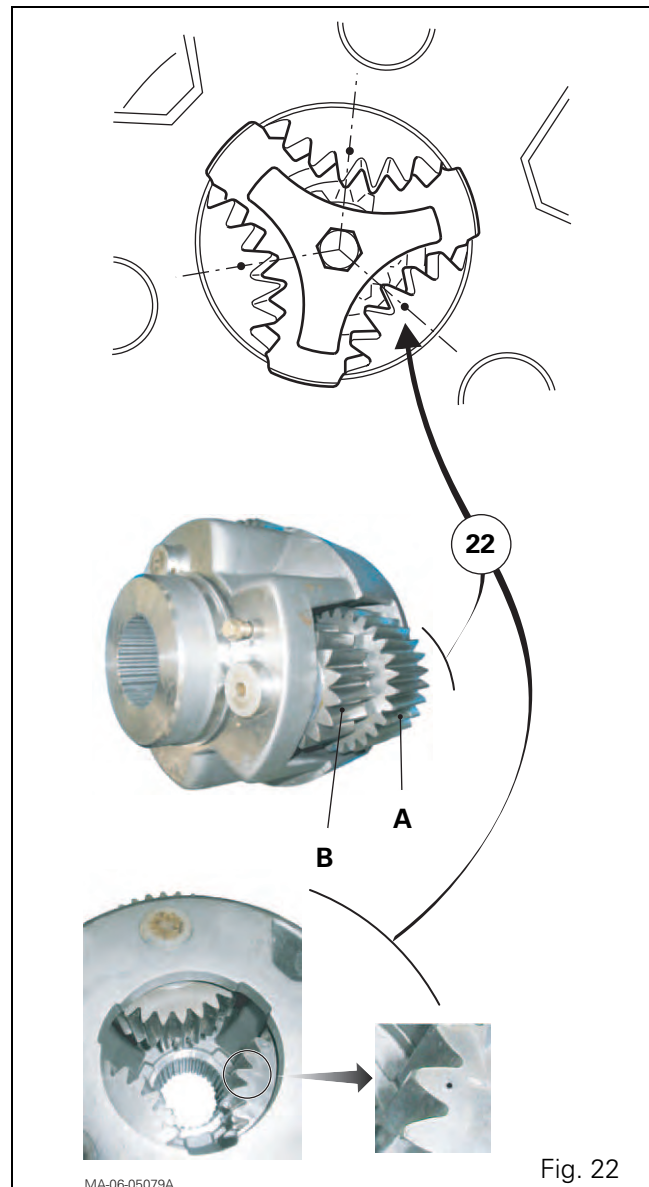

Fig. 22
65. Lightly smear the thread of the screw (28) with Loctite 270 or equivalent. Fit and tighten this screw to a torque of 340 - 500 Nm.
66. Position the mark on each planet gear according to Fig. 22.